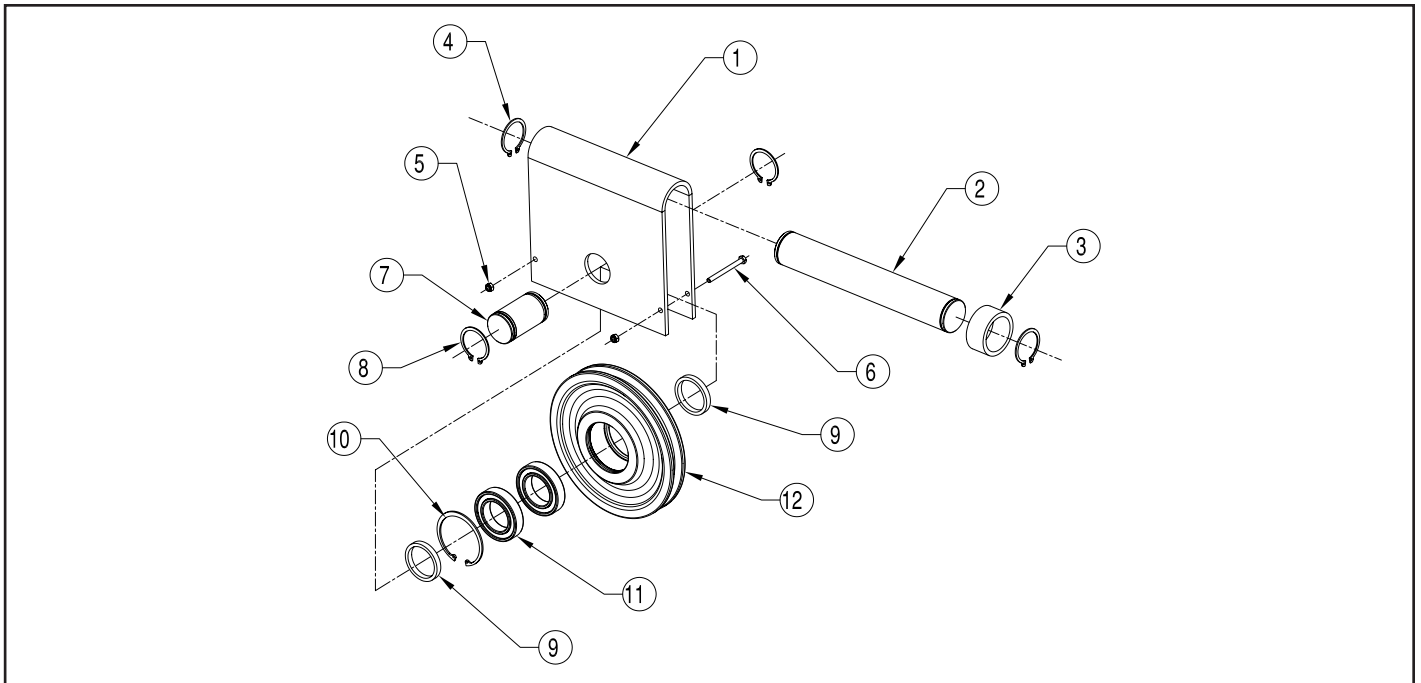

Figure 9-5. Upper Block Assembly
"B" Frame: Upper Block Components for Figure 9-5.
"C" Frame: Upper Block Components for Figure 9-5.
**"D" Frame: Upper Block Components for Figure 9-5.**